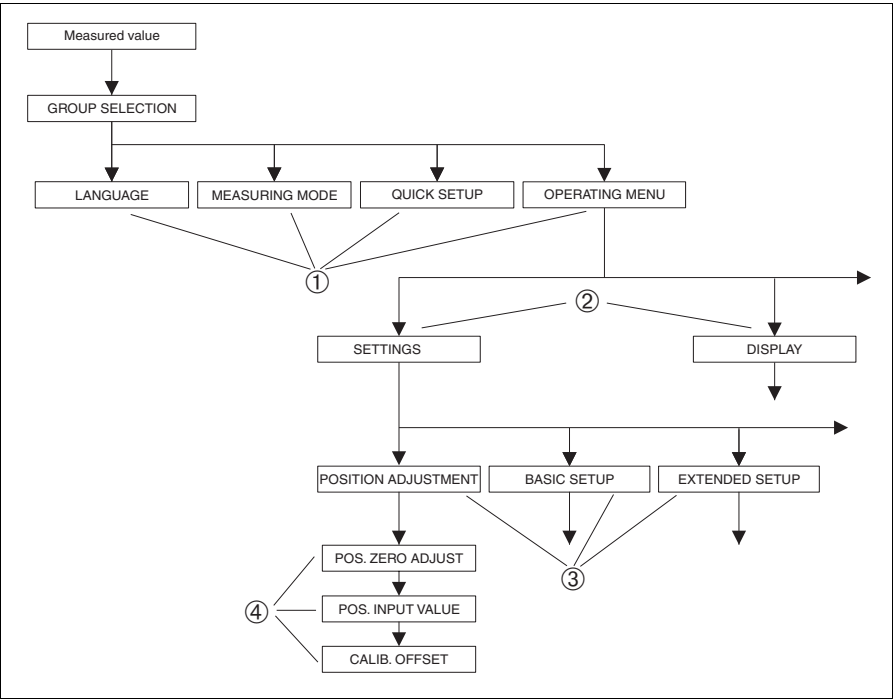

Fig. 7: Structure of the operating menu
- Via a DIP-switch on the electronic insert, locally on the display (→ see Page 13, Fig. 7).